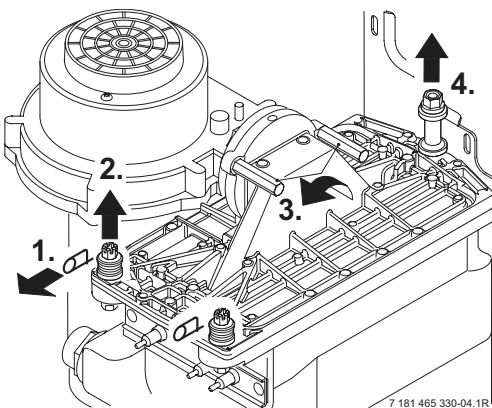

Fig. 55
- ▶ Remove the clips (1.) and unscrew the two bolts (2.). Refer to fig. 55.